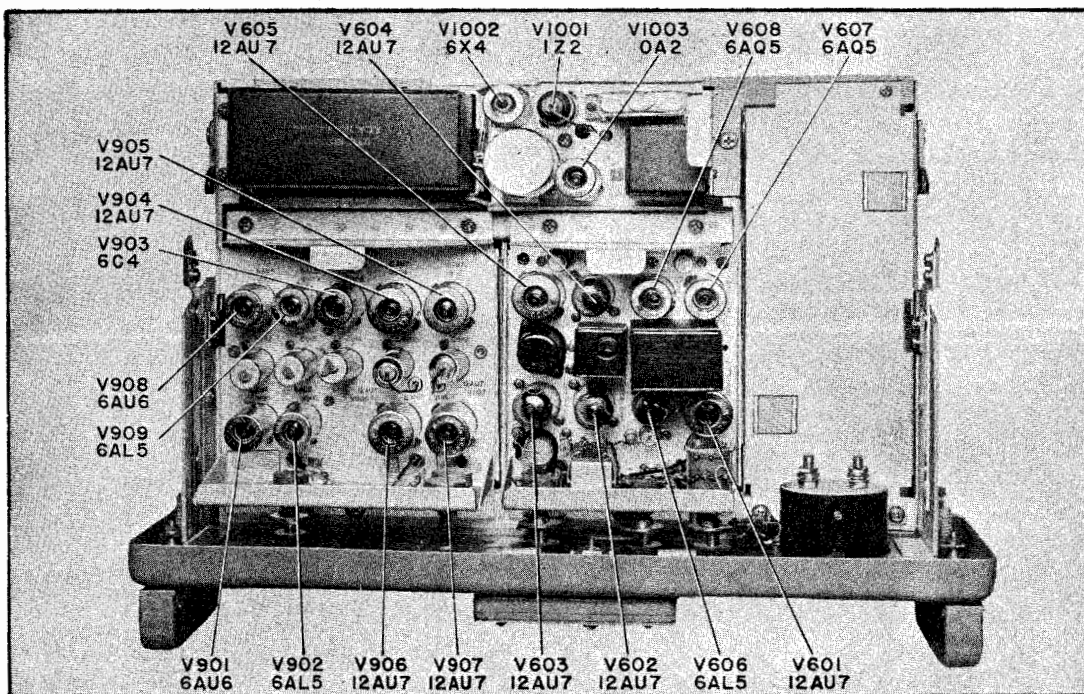

Figure 5-4. Comparator CM-14/URR Tube Locations
(1) Slide the Comparator out of the cabinet and connect to Cable Filter by means of the jumper cable supplied.
(2) Connect a jumper from a filament lead to grid of V903, pin 6 (location of this tube is shown in Figures 5-4 and 7-45).
(3) Set CHANNEL A—COMBINED—CHANNEL B switch to COMBINED.
(4) Connect a test oscilloscope from V906 cathode, pin 3, to ground.
(5) Channel switching is now occurring at a 60-cycle rate.